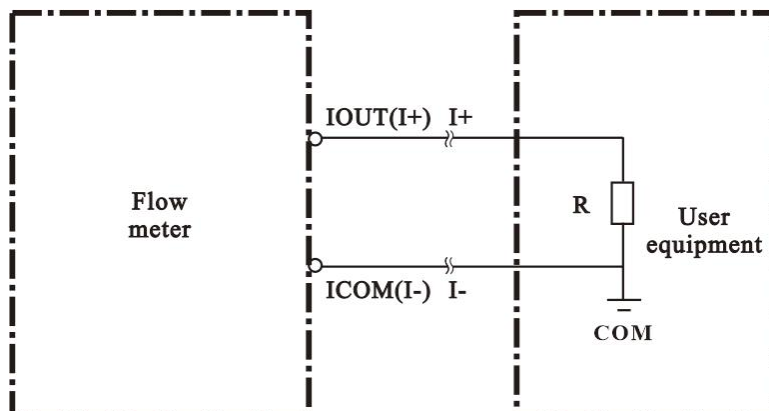

Figure 12
7.6.1 Output mode 1: Two-line active current output (Figure 12)